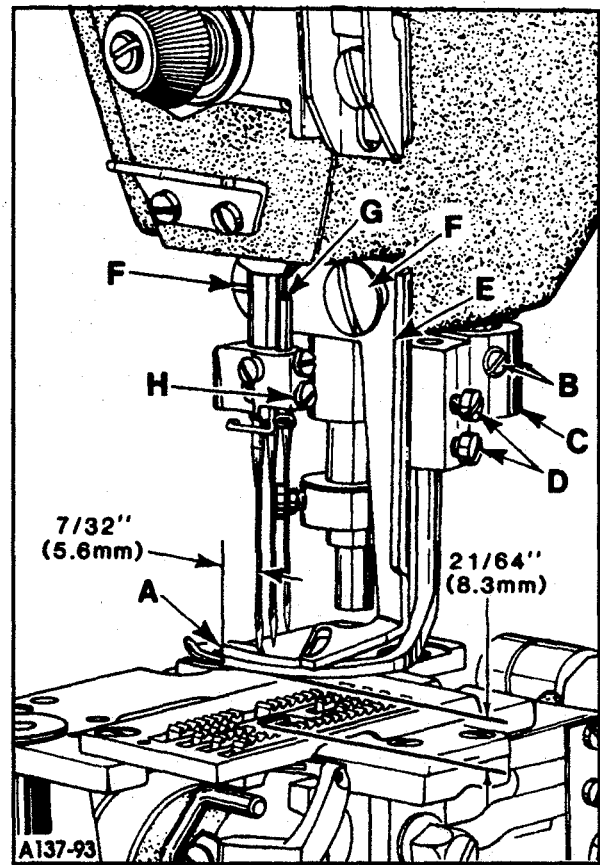

FIG. 17
With needle bar at top of its stroke and spreader at extreme left end of its travel, point of thread carrying notch (A, Fig. 17) should extend 7/32" (5.6mm) to the left of the centerline of left needle. Adjustment can be made by loosening screws (B), reposition spreader as required being sure to push down on spreader holder carrier (K, Fig. 22) and up on spreader holder (L) while tightening screws (B, Fig. 17) because spreader holder (C) acts as lower thrust collar for spreader holder carrier.
Bottom surface of spreader should be set  $21/64"$  (8.3mm) from top of throat plate (See Fig. 17). At extreme right end of travel, spreader must be set to clear the shank of left needle by  $1/64"$  to  $1/32"$  (.4mm to .8mm). Adjustments can be made by loosening screws (D), reposition spreader as required and retighten screws. A TT-68 gauge can be used to set the  $21/64"$  (8.3mm) dimension.
Stationary thread guide (E, Fig. 17) should be set to clear right needle by approximately  $3/32"$  (2.4mm). Attaching screws (F) will allow repositioning as required. Moveable thread eyelet (G) should be positioned with its eye directly over the front end of slot in stationary thread guide (E). With needle bar at bottom of stroke, lower surface of thread eyelet (G) and top of thread guide (E) should have the clearance equivalent to the shank of a Type 121 needle, approximately  $.080"$  (2mm). Screw (H) will allow repositioning as required.